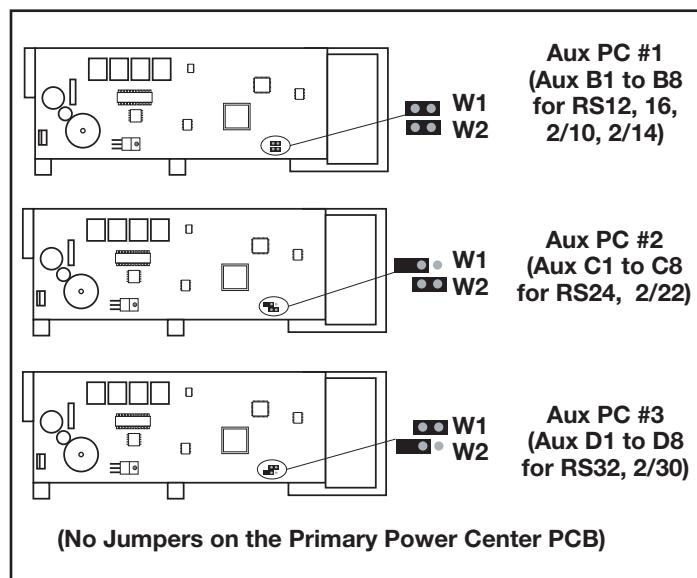

**Figure 22.** Wiring Multiple Power Centers
1. The auxiliary power centers may be wired “in series”, starting from the primary power center (solid line) or wired “in parallel” from the primary power center (dashed line). See Figure 22.